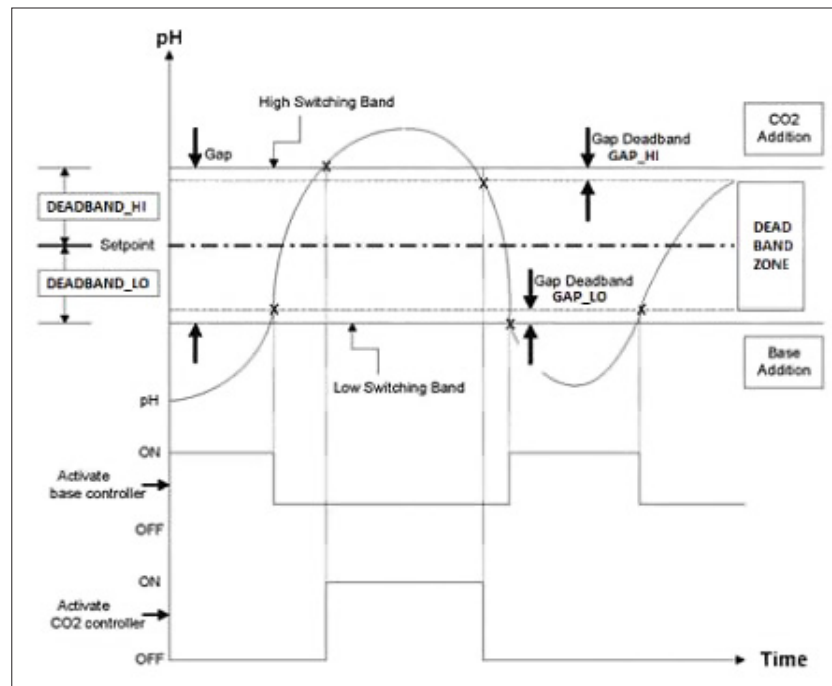

Figure 4.8. Operation of control loop with deadband and gap.
- a. This will allow extra time for equilibration if the control loop has been activated. Figure 4.8 illustrates the operation of a control loop, with the deadband and the gap shown.